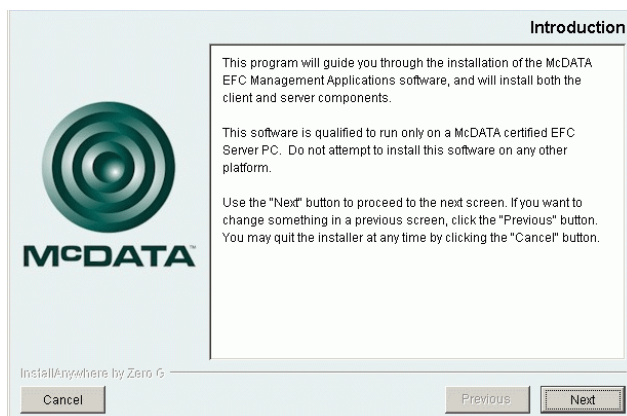

Figure 4-81 McDATA EFC Management Applications Dialog Box
7. Click *OK*. A series of message boxes appear as the *InstallAnywhere* third-party application prepares to install the EFC Manager software, followed by the *McDATA EFC Management Applications* dialog box (Figure 4-81).